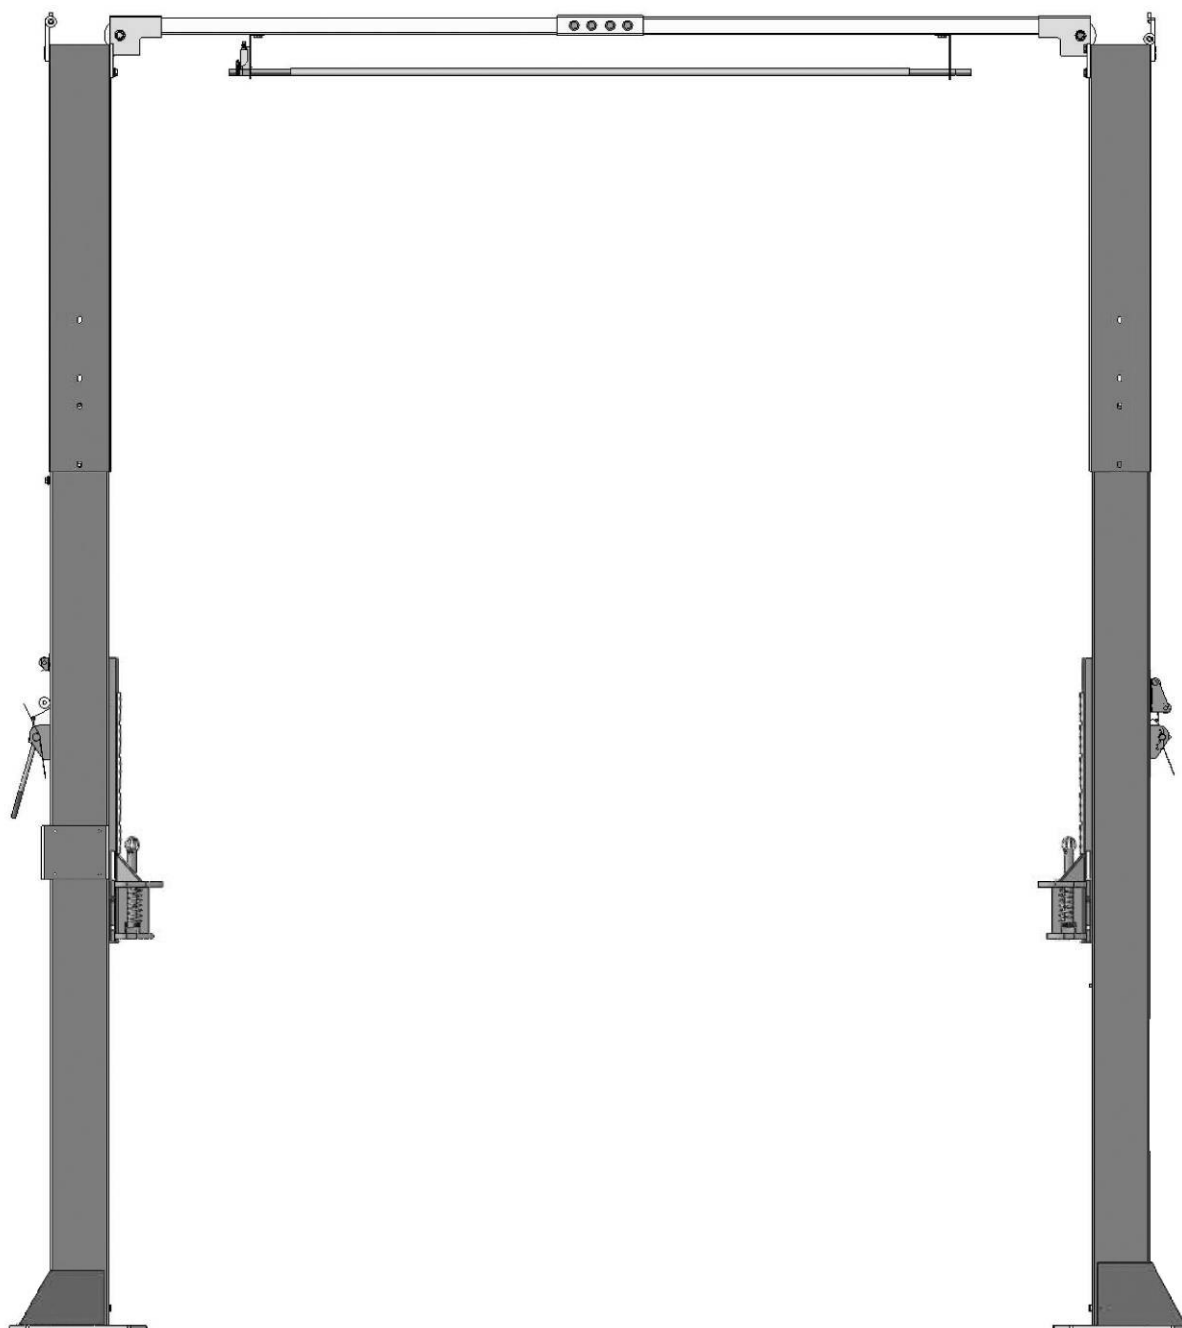

Fig. 23
J. Lift the carriages up to about one meter high by hand and make them be locked at the same level (**See Fig. 23**).